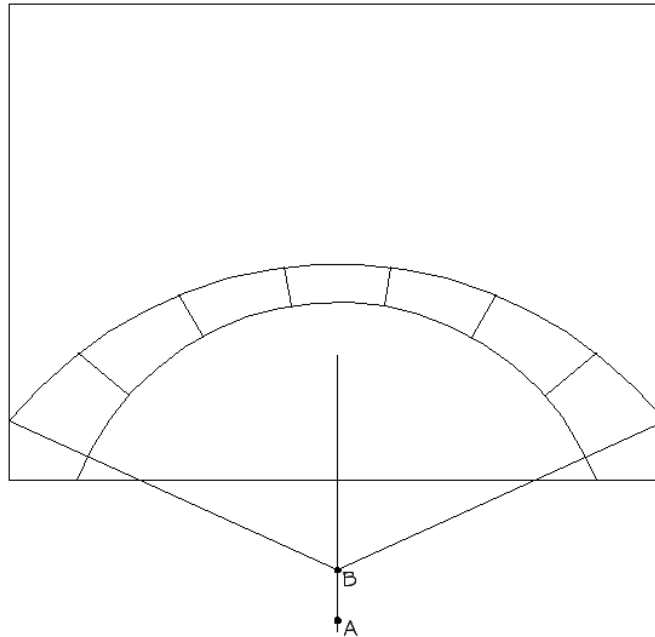

Figure 13.15
1. A somewhat more attractive bridge can be designed by using two different center points for the inner and outer arcs (**Figure 13.15**), which tends to thicken the bridge at each end, with a thinner span at the center. To accomplish this, follow all the steps given above, but before drawing in the inner arc, drop the compass point below center-point X along the perpendicular, and create the upper arc as you desire. But be warned: this means that you will be required to do a great deal more individualized piece work, since each set of two voussoirs (opposites) will be different from every other set. Such a design works most easily on arches of short span, but is more attractive on long-span arches, especially when the deck of the arch is almost flat.